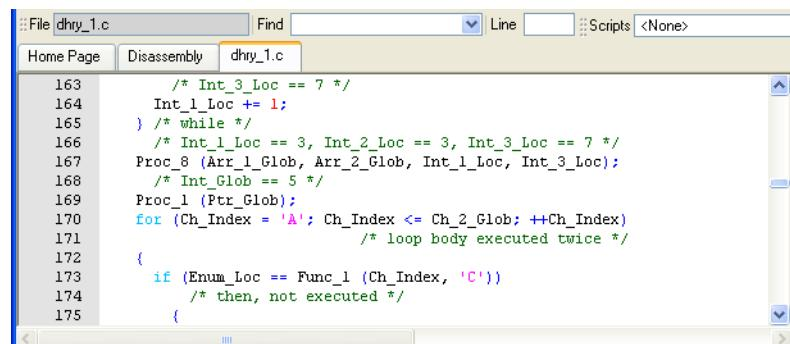

Figure 11-19 Source code view
2. Locate the program item in your source code, such as a function call. Figure 11-19 shows an example source code view for the dhystone.axf image.
3. Double-click on the program item to highlight it. In the example shown in Figure 11-19, double-click on the Proc_1 function name.